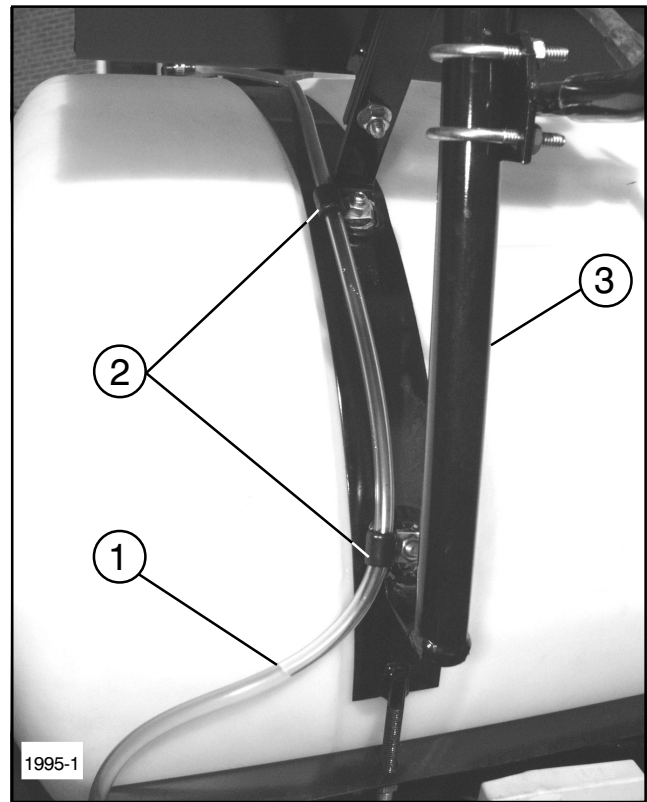

FIG. 4
4. Use R-Clamps to secure clear hose. Install clamps using bolts attaching Hold-in Bracket. See FIG. 4 and 5.